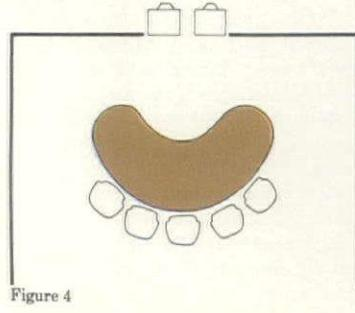

Figure 4
The kidney-shaped table (Figure 4) ameliorates some objections to the two basic configurations already described. Like the semicircular table, it places all participants within roughly equal range of both monitors and cameras. And like the wedge-shaped table, it allows each participant to see all faces around
*more natural setting for discussion, but participants at the far end of the table get the worst seats in the house for both seeing and being seen. The kidney-shaped table (Figure 4) is an alternative that places all participants equidistant from monitors and cameras, as well as allowing them to see each other's faces with ease.*